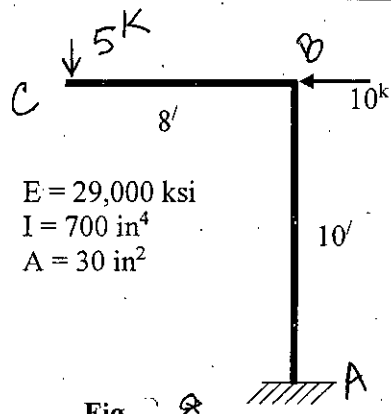

Fig. 8
9. Using the method of virtual work, find vertical deflection at C of the frame shown in Fig. 8. Consider that deflection of each member of the frame is primarily caused by the axial and bending strain energy. Given that E = 29000 ksi, A = 30 in² and I = 700 in⁴. (28)